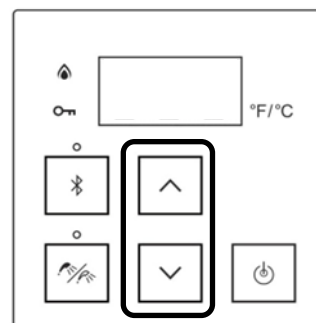

Figure 73
3. Press the up or down arrow buttons to obtain the desired temperature setting (Figure 73).